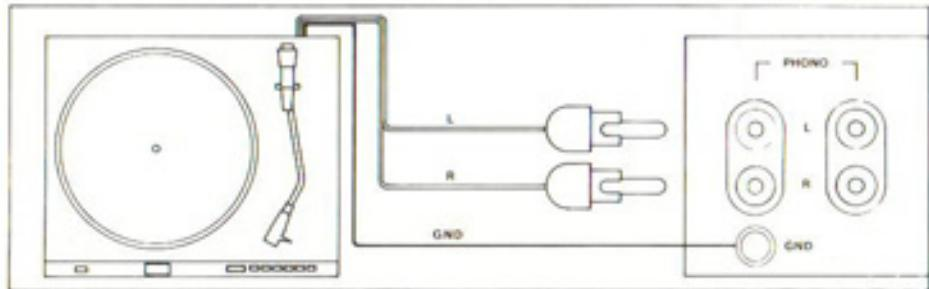

Fig. 6
- Collegare il cavo di uscita all'ingresso «Phono» dell'amplificatore, il canale sinistro (spinotto bianco) alla presa «L», il canale destro (spinotto rosso) alla presa «R» (Fig. 6).
- Connect the output cable to the «Phono» input terminals of the amplifier, left channel output cable (white plug) to the «L» phono input terminal and right channel output cable (red plug) to the «R» phono input terminal (see Fig. 6).
La presenza di eventuale ronzio può essere provocata da incompleto o scorretto collegamento tra giradischi ed amplificatore. In tal caso verificare che tutte le connessioni elettriche siano corrette (Fig. 6).
If annoying hum is heard, it may be caused by incomplete or incorrect player/receiver or amplifier connections. If this occurs, check to make sure that all connections are correct on the rear of the receiver/amplifier (see Fig. 6). It can also be caused by an electromagnetic field produced by the motors or transformers used in other equipment. Do not place the turntable near a device which contains a motor or transformer. To prevent the turntable from being affected by the power transformer of your amplifier, receiver or tape deck, position the turntable on the opposite side of the power transformer.